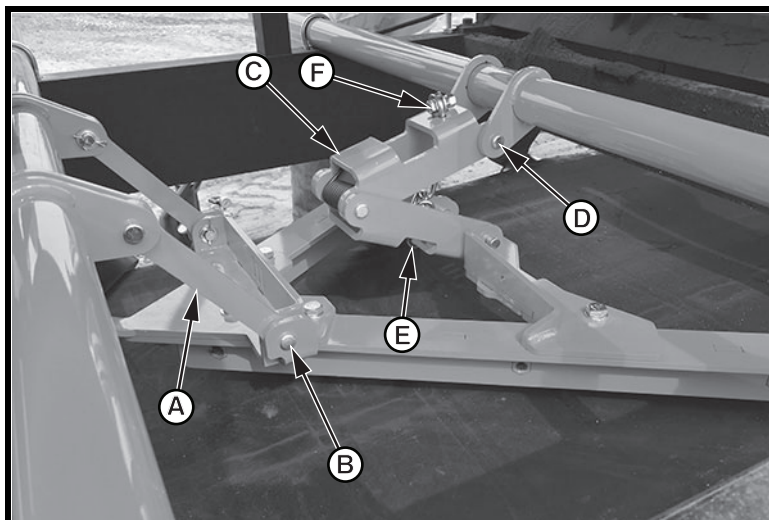

Figure 5. Installing VPlow on Hanger Bars
- b. If the stringers are too high or too low to accommodate the hanger bars in the proper position, adapter plates can be mounted to the stringer. See Figure 5.